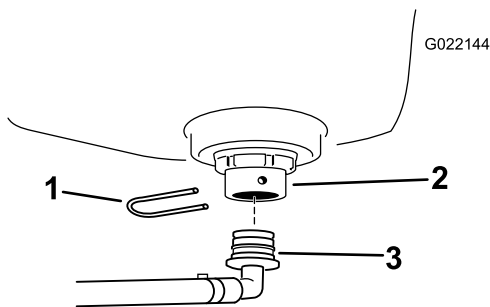

Figure 4
1. Install the bulk head fitting onto the rinse tank (Figure 4).